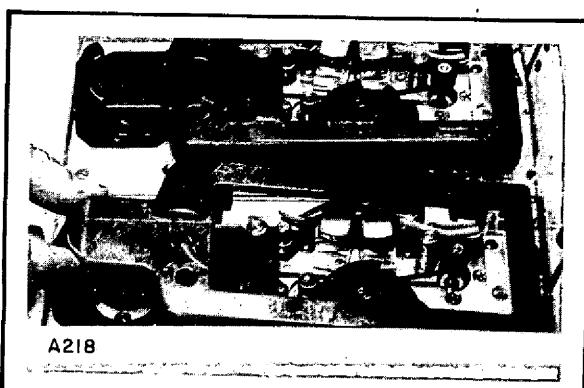

Fig. 3-9. Close Access Cover
- d. Push down the loader with tape cartridge removed. (See figure 3-9.)